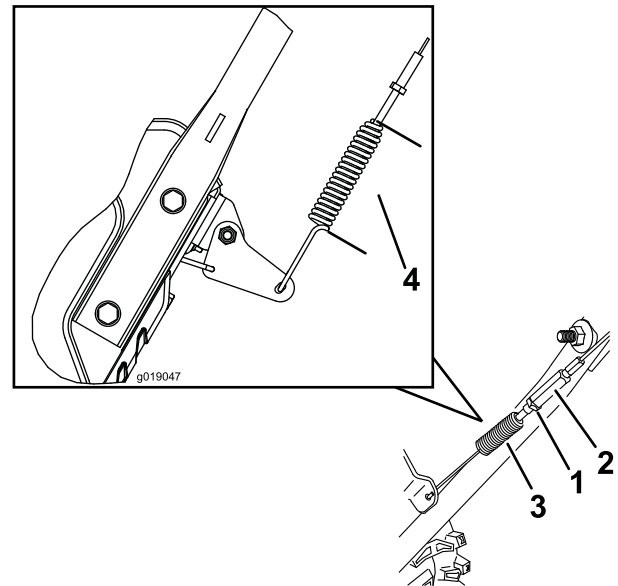

Figure 40
3. Loosen or tighten the turnbuckle to adjust the spring length to 2.75 inches (7 cm) (Figure 40).
4. Tighten the jam nut (Figure 40), ensuring there is slight tension on the cable.